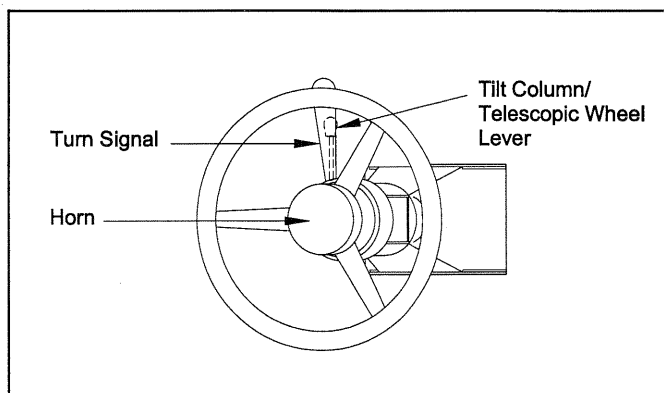

Figure 3-8: Steering Column
3. Steering Column (Refer to Figure 3-8)